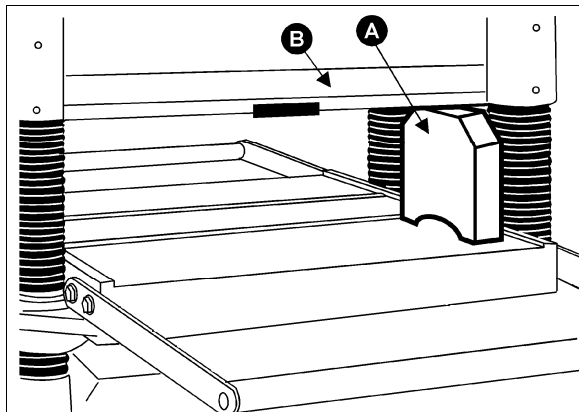

Figure 25
2. Turn the handwheel clockwise; raising the cutterhead assembly high enough to place the gauge block (A, Fig. 25) on the work table under one end of the head casting (B, Fig. 25).